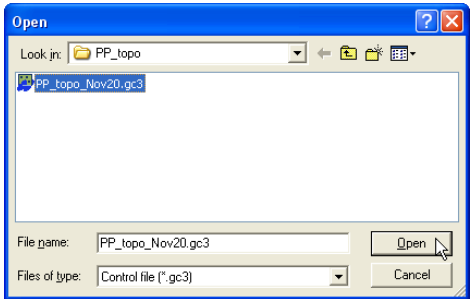

Figure 9-5. Open Control File
2. On the *Open* dialog box, navigate to the location of the file, select the file type as Control file (*.gc3), select the desired file, and click **Open** (Figure 9-5).